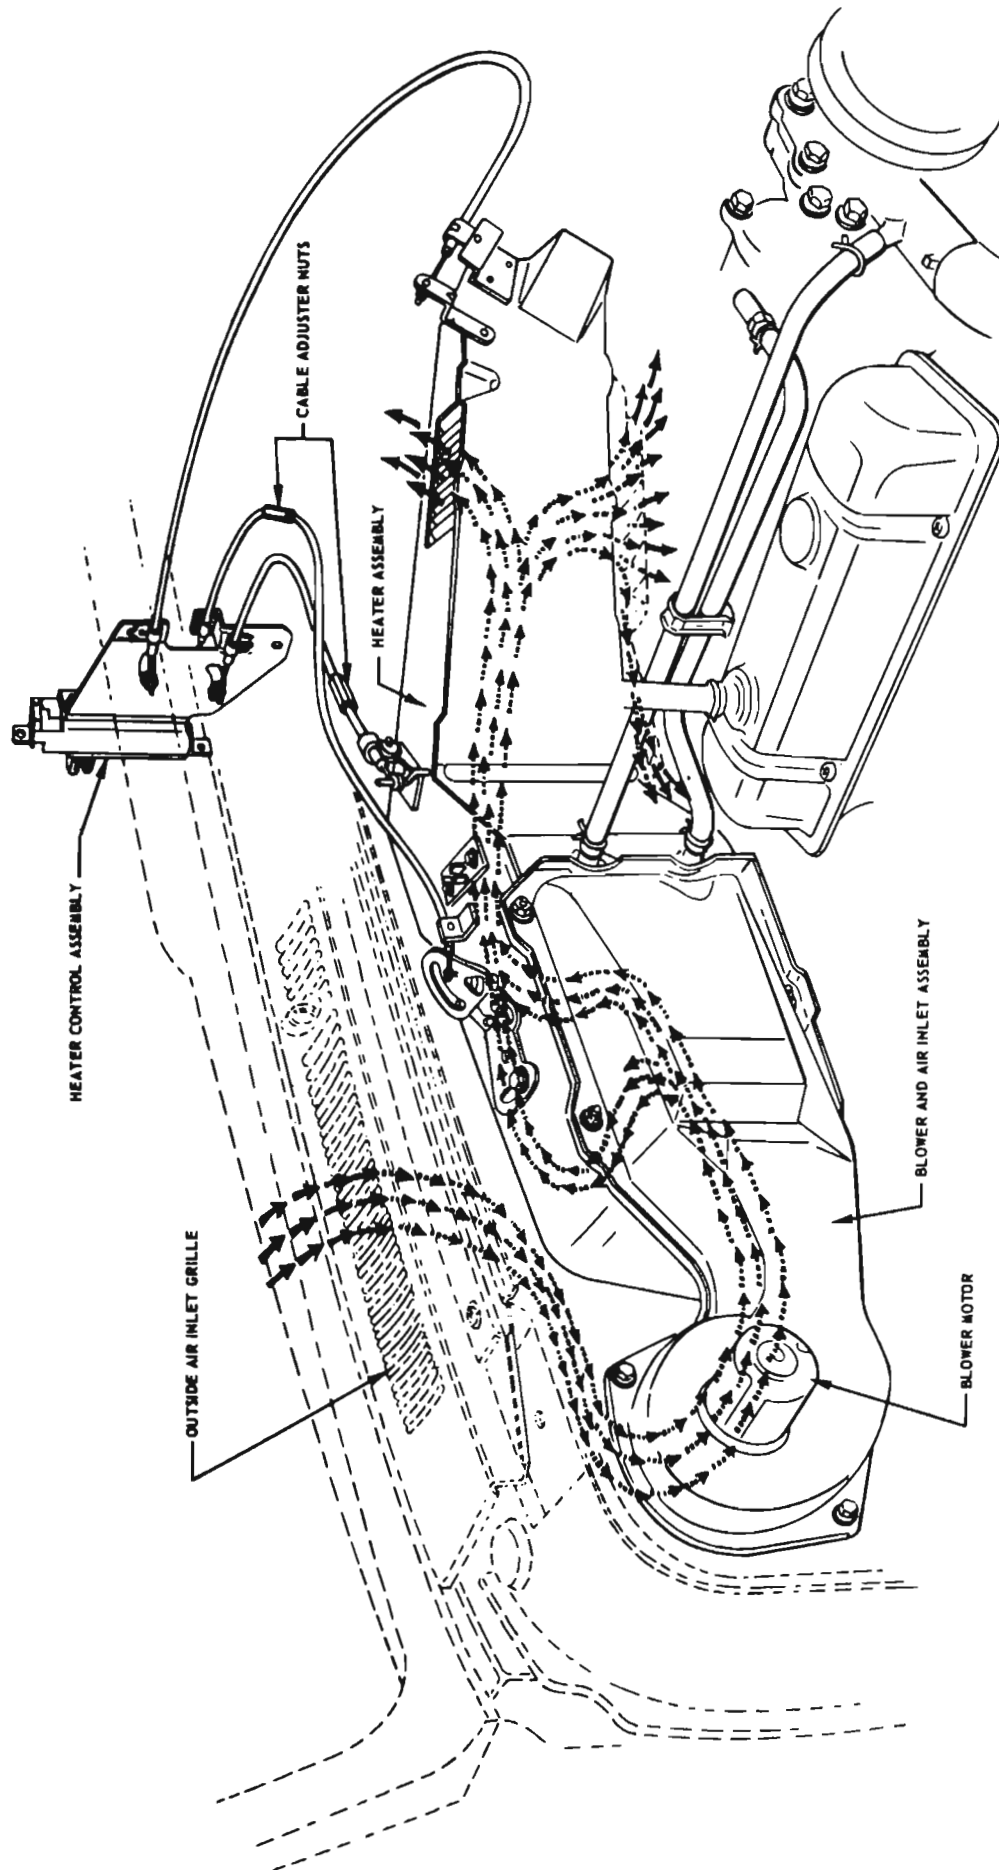

Figure 11-10—Heater System - 43000 and 44000 Series
The heater system is an air-mix type system in which outside air is heated and then mixed in varying amounts with cooler outside air to attain the desired air temperature. The system consists basically of three parts: (1) the blower and air inlet assembly, (2) the heater assembly, and (3) the heater control assembly (see Figure 11-10). The operation of the system is as follows: